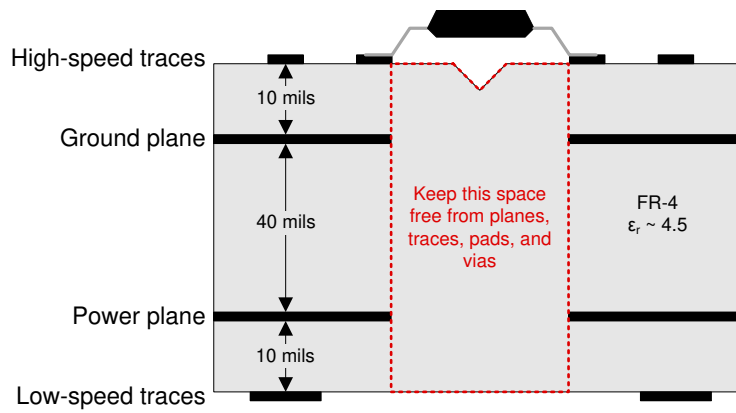

Figure 10-1. Recommended Layer Stack
On-chip IEC-ESD protection is good for laboratory and portable equipment but never sufficient for EFT and surge transients occurring in industrial environments. Therefore robust and reliable bus node design requires the use of external transient protection devices. Because ESD and EFT transients have a wide frequency bandwidth from approximately 3-MHz to 3-GHz, high-frequency layout techniques must be applied during PCB design. A minimum of four layers is required to accomplish a low EMI PCB design (see Figure 10-1).
- Apply 100-nF to 220-nF bypass capacitors as close as possible to the VCC-pins of transceiver, UART, controller ICs on the board (see Figure 10-1).
- Use at least two vias for VCC and ground connections of bypass capacitors and protection devices to minimize effective via-inductance (see Figure 10-1).
- Use 1-k Ω to 10-k Ω pullup and pulldown resistors for enable lines to limit noise currents in these lines during transient events (see Figure 10-1).
- Insert pulse-proof resistors into the A and B bus lines if the TVS clamping voltage is higher than the specified maximum voltage of the transceiver bus pins. These resistors limit the residual clamping current into the transceiver and prevent it from latching up (see Figure 10-1).